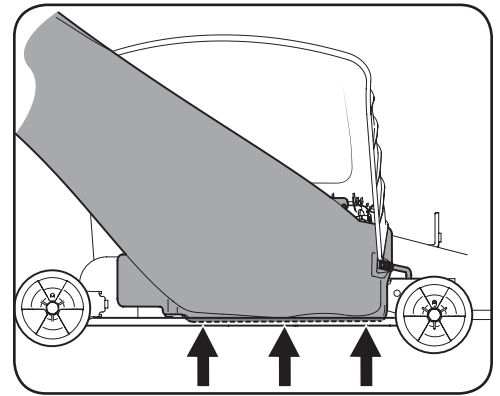

Figure 4-20
**IMPORTANT!** Be certain that the bottom of the discharge chute is located inside of the lip of the deck opening, as shown in Figure 4-20.